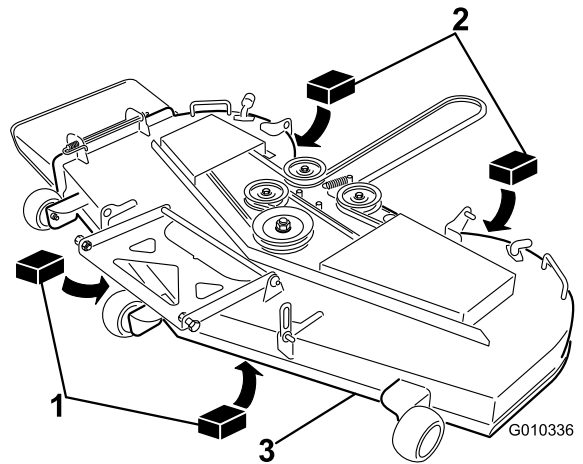

Figure 61
3. Place 2 blocks, each having a thickness of 6.6 cm (2-5/8 inches), under each side of the front edge of the deck but not under the anti-scalp roller brackets (Figure 61).
4. Place 2 blocks, each having a thickness of 7.3 cm (2-7/8 inches), under the rear edge of the cutting deck skirt, 1 on each side of the cutting deck (Figure 61).